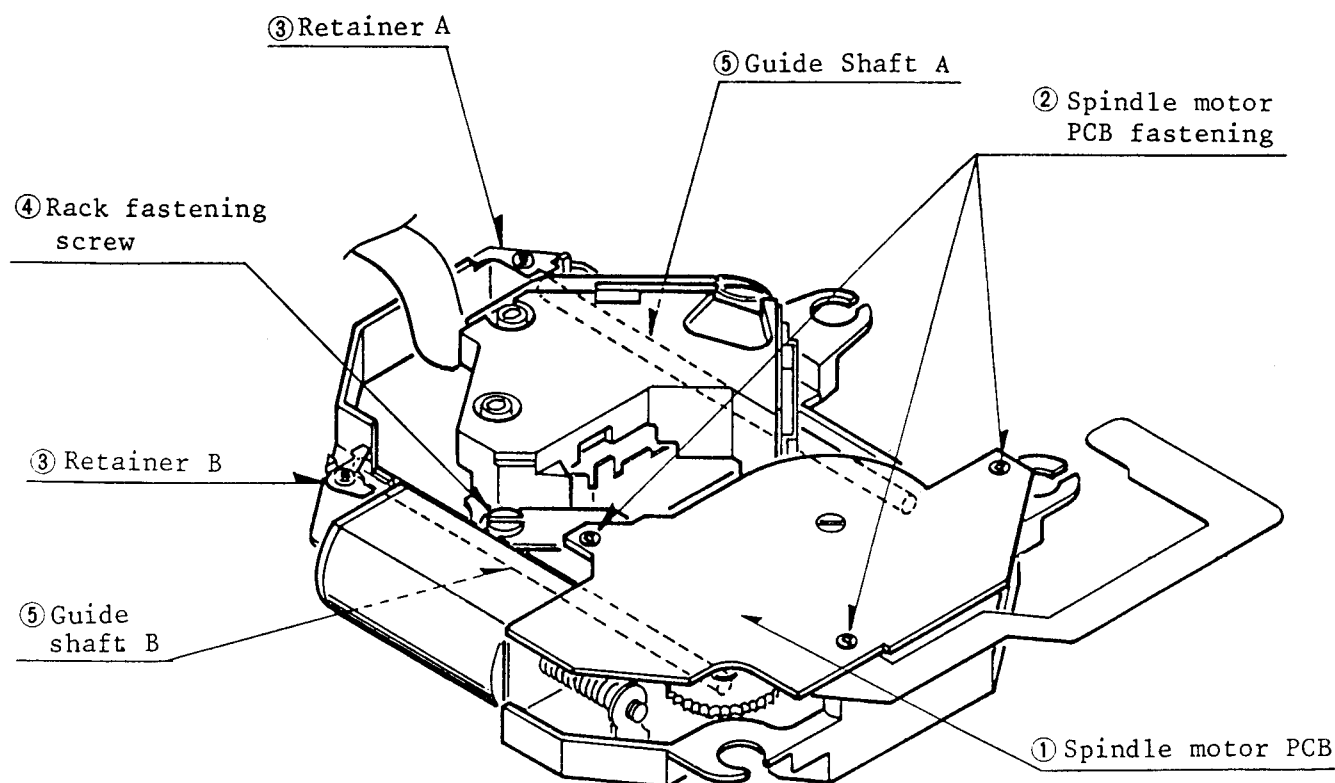

Fig. 3-1
- ① Disassemble the player to take out the traverse unit as in Fig.3-1.